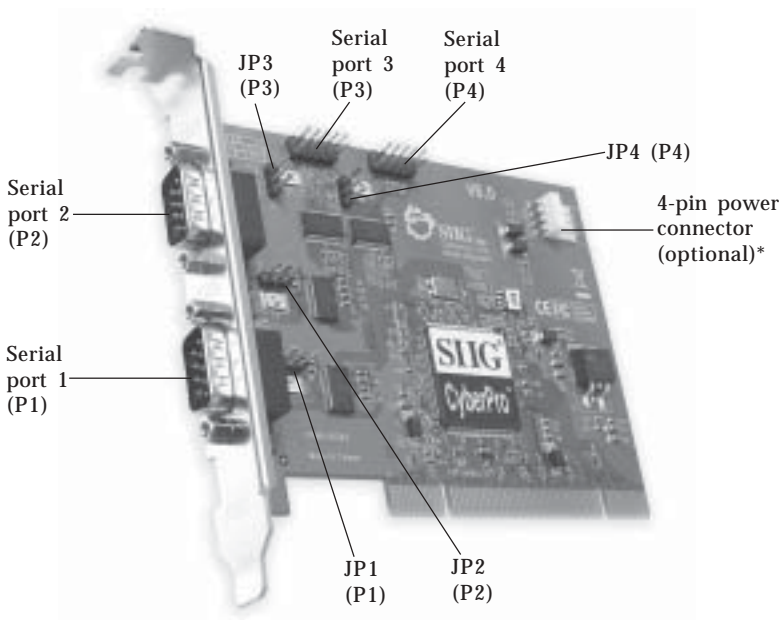

Figure 1. Layout
4. Set **JP1-JP4** jumper settings to the desired voltage only if your serial device(s) needs additional power from the serial port. However, most serial devices do not require additional power. For more information go to **Figure 1** on page **2**. Skip this step if power is not required.